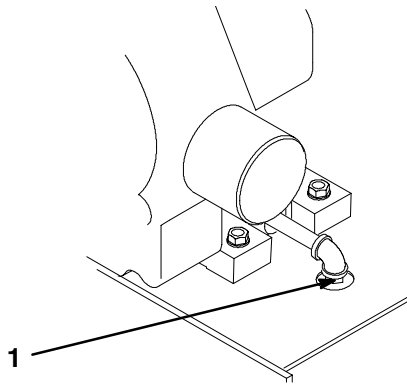

Figure 22
3. Place a pan below the oil drain. Remove the oil drain plug (Fig. 22).